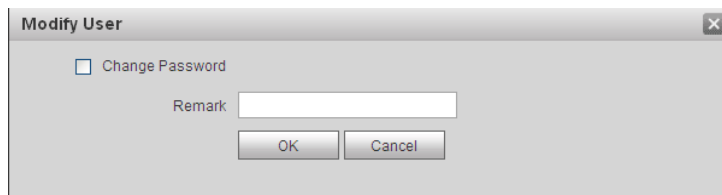

Figure 5-18
Step 1. Select user who you want to modify his/her password, click . See Figure 5-18.